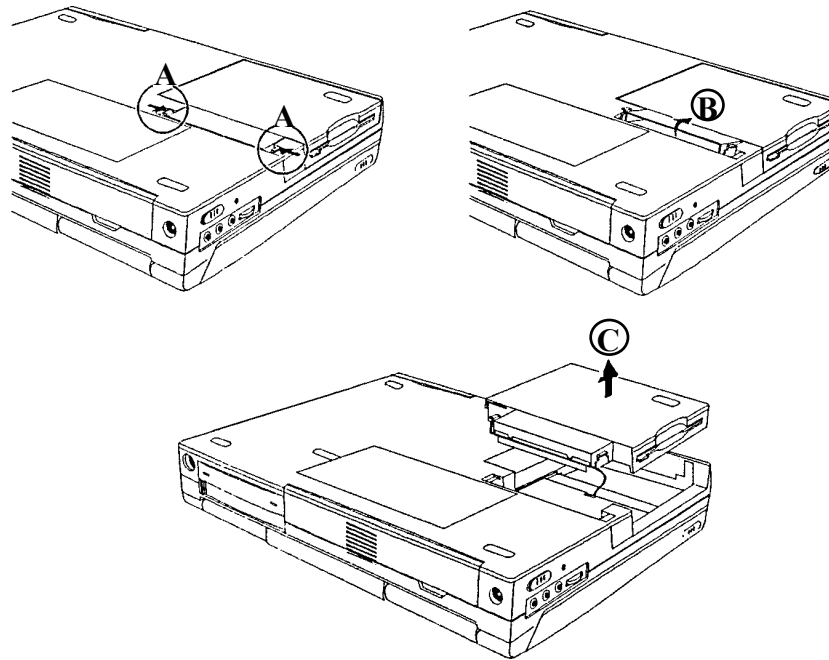

FIGURE 3-1
2. PUSH IN THE SAETY CATCHES FIRST (FIGURE 3-1 A) AND LIFT THE FLAP END (FIGURE 3-1 B) TO PULL THE FLOPPY DISK DRIVE OUT OF THE COMPART (FIGURE 3-1 C).